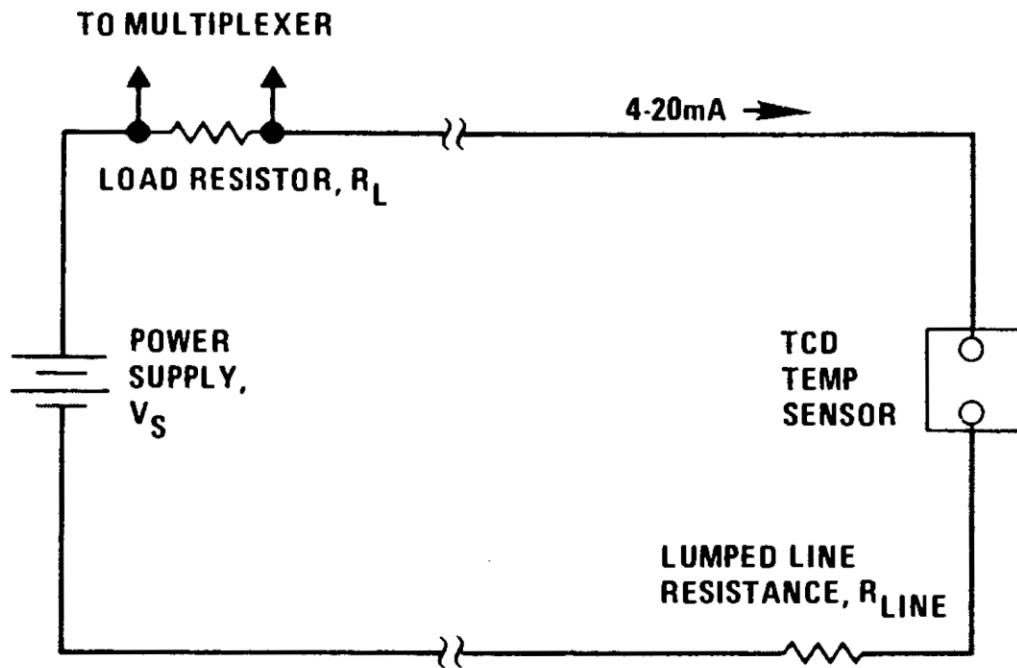

Figure 1
- Maximum Line and Load Resistance (See Figure 1): 1500 ohms